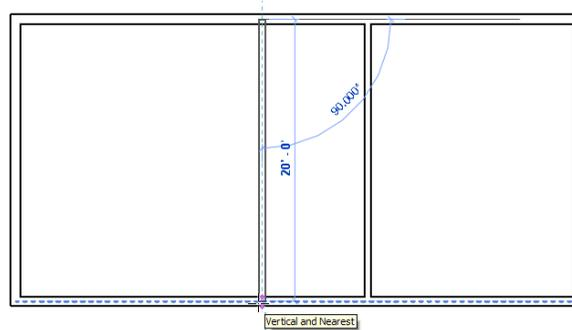

Figure 3-59 Sketching the second interior wall
2. Press SHIFT and move the cursor downward. You will notice that the cursor moves parallel to the vertical axis while moving it downward. Click near the lower external wall when the **Vertical and Nearest** symbol appears, as shown in Figure 3-59.